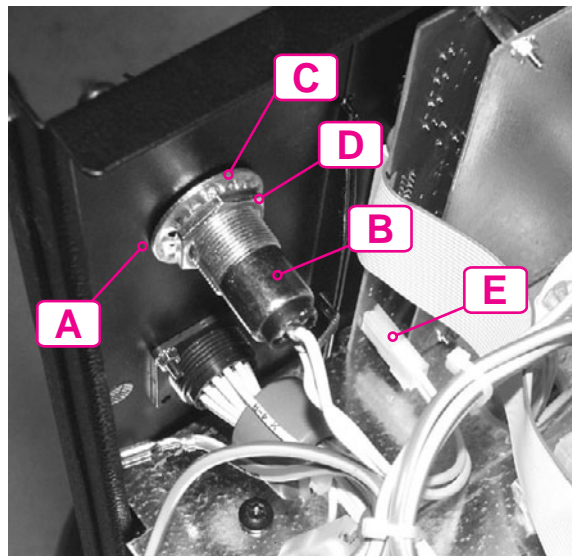

Fig. 3 Installation / wiring
- Insert the key switch (Fig. 3, B) with the cable harness through the hole in the casing from the outside.
- Place the fan-type lock washer (Abb. 3, C) onto the key switch
- Screw the key switch onto the casing panel having first removed the fixing nut (Fig. 3